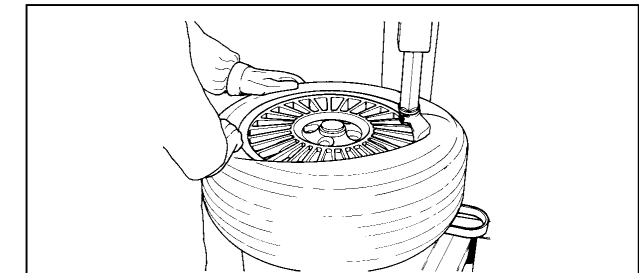

Fig. 13
G. Rotate the turntable clockwise and at the same time push down on the tire sidewall to move the bead into the drop-center of the rim (Fig.13).